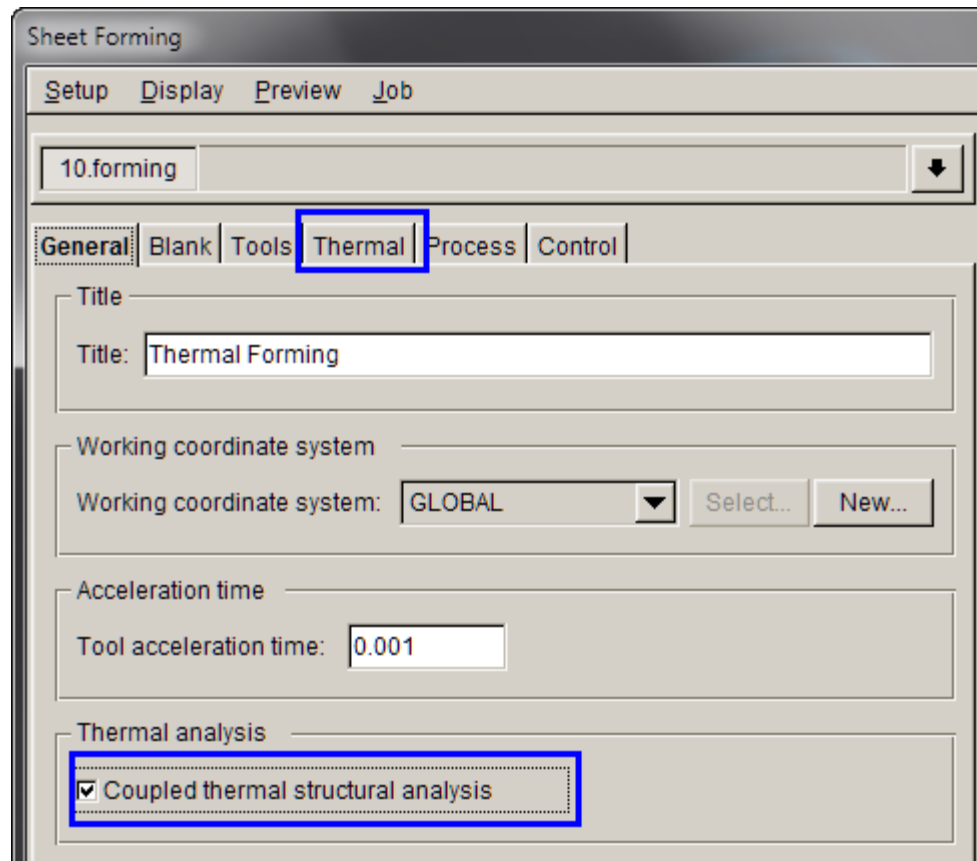

Figure 35
3. A tab named **Thermal** is displayed (Figure 35).